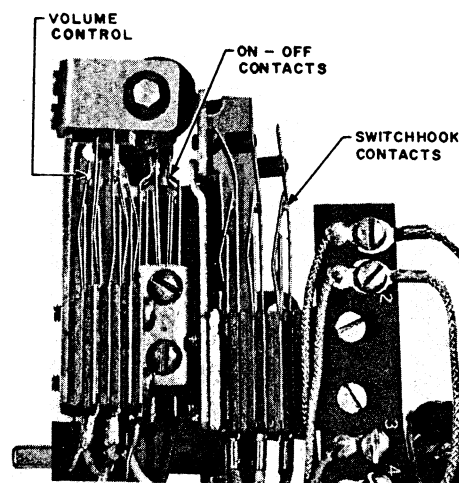

Fig. 5 — Contact Assembly
- If contacts test open, clean using a 265C tool with a clean blade. If trouble still exists, carefully make adjustments with a 363 tool. If adjustment cannot be made satisfactorily, replace set (see Fig. 5).